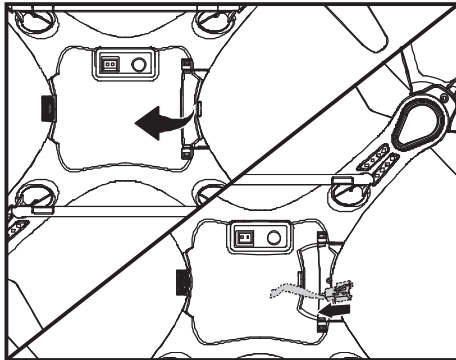

Fig 1
1. Open the battery door as Fig 1 below.